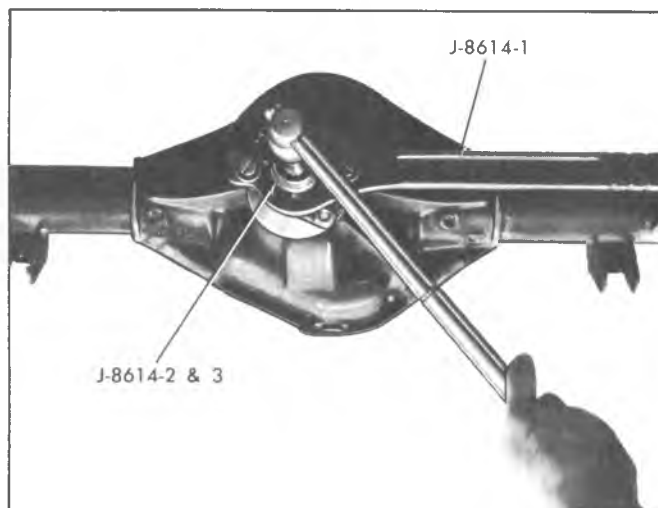

Fig. 5—Removing Pinion Flange
2. Install Tool J-8614-2, and 3 into holding bar as shown in Figure 5 and remove flange from drive pinion. Remove drive pinion from carrier.